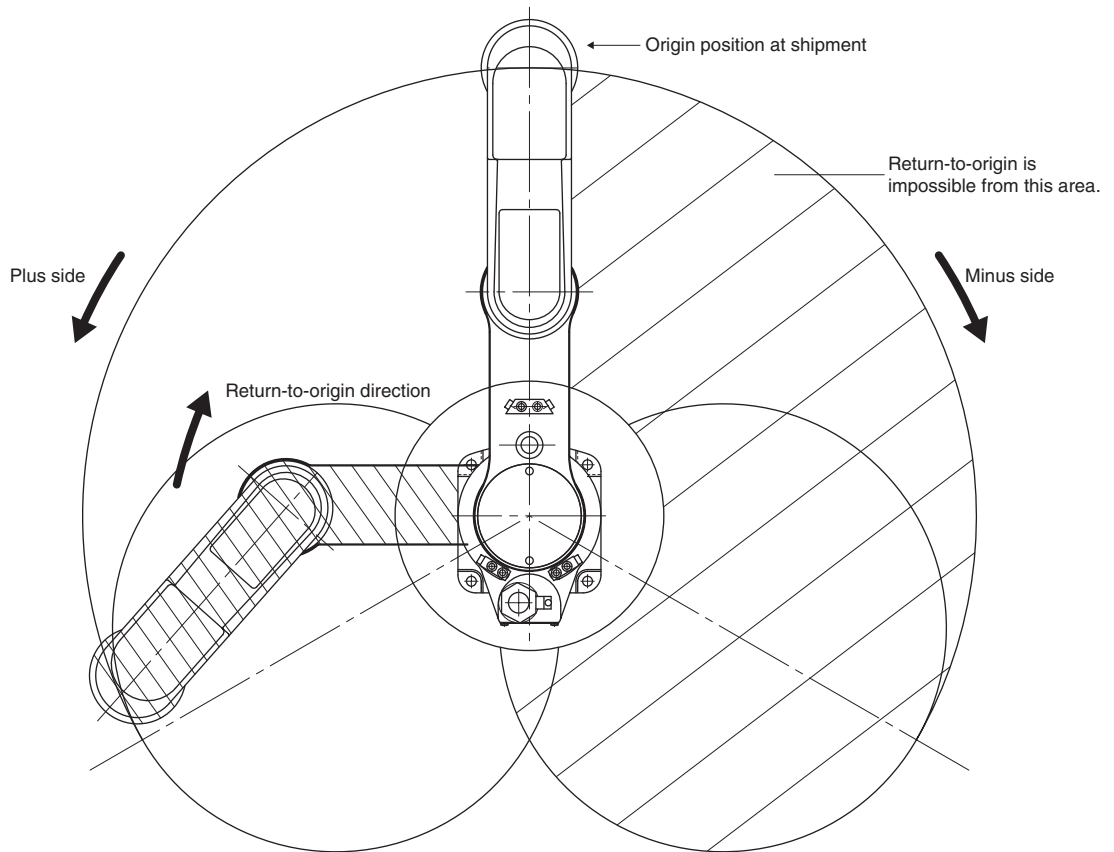

Fig. 4-2
THE ORIGIN CANNOT BE DETECTED IN ANY AXIS WHICH IS NOT POSITIONED ON THE PLUS SIDE FROM THE ORIGIN (SEE FIG. 4-2.) BEFORE STARTING THE RETURN-TO-ORIGIN OPERATION. (FACTORY SETTING AT SHIPMENT.)
- 6) Check that the absolute reset axis must be positioned at the plus side of the origin. (See Fig. 4-2.)